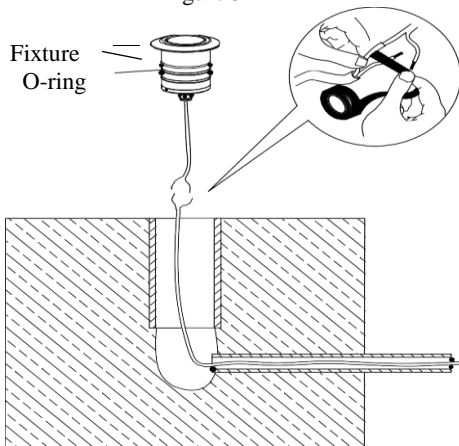

Figure 4
2. Connect the lamp lead to the 12VDC lead inside the PVC pipe (Figure 4);